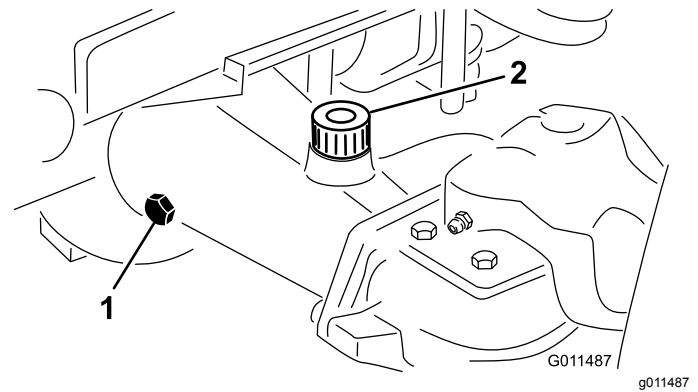

Figure 16
2. Remove a check plug from one end of the axle (Figure 16) and make sure that the lubricant is up to the bottom of the hole. If the level is low, remove the fill plug (Figure 16) and add enough lubricant to bring the level up to the bottom of the check plug holes.